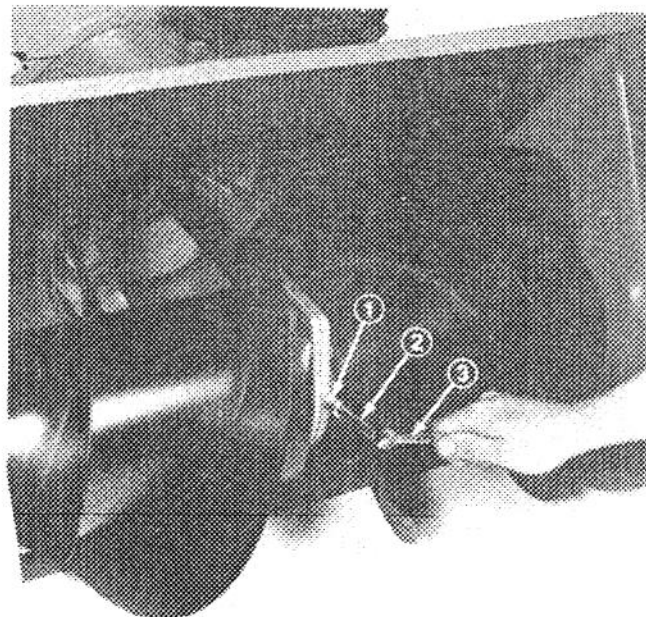

Figure 13
2. Remove pipe plug from gear box by placing the open end of a 3/8" drive socket extension over plug and using a 3/8" open end wrench on the square end of the extension (Fig. 13).
5. Install pipe plug in gear box (Fig. 13).